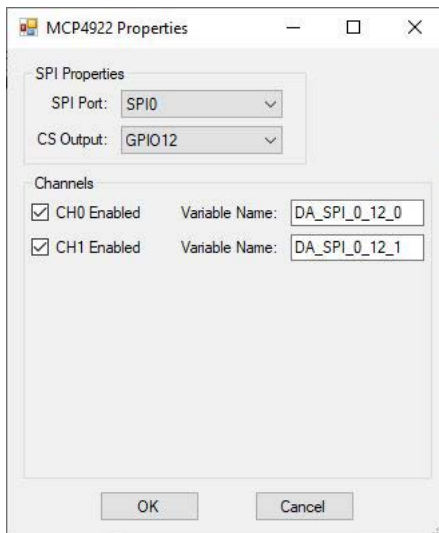

Figure 15-34
Select the SPI port from the drop down menu and select the general purpose output pin (GPO) that will serve as this device's chip select (CS). See Figure 15-34. Any chip select pins reserved for structured text will not be visible in the drop-down menu.